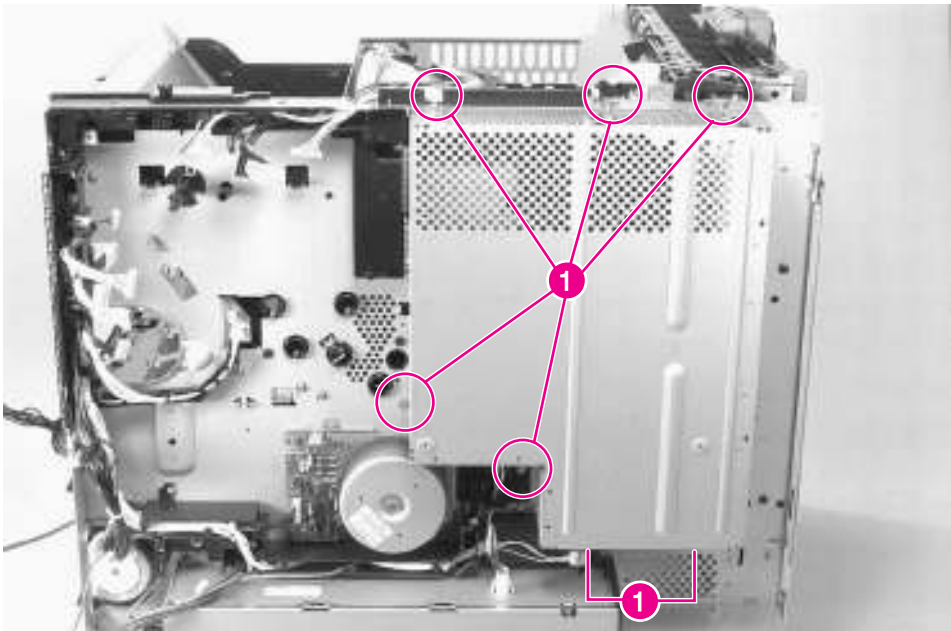

Figure 6-42 Output Paper Sensor PCA (1 of 4)
- 2 Remove 7 screws (figure 6-42, callout 1), and remove the Formatter PCA cage.